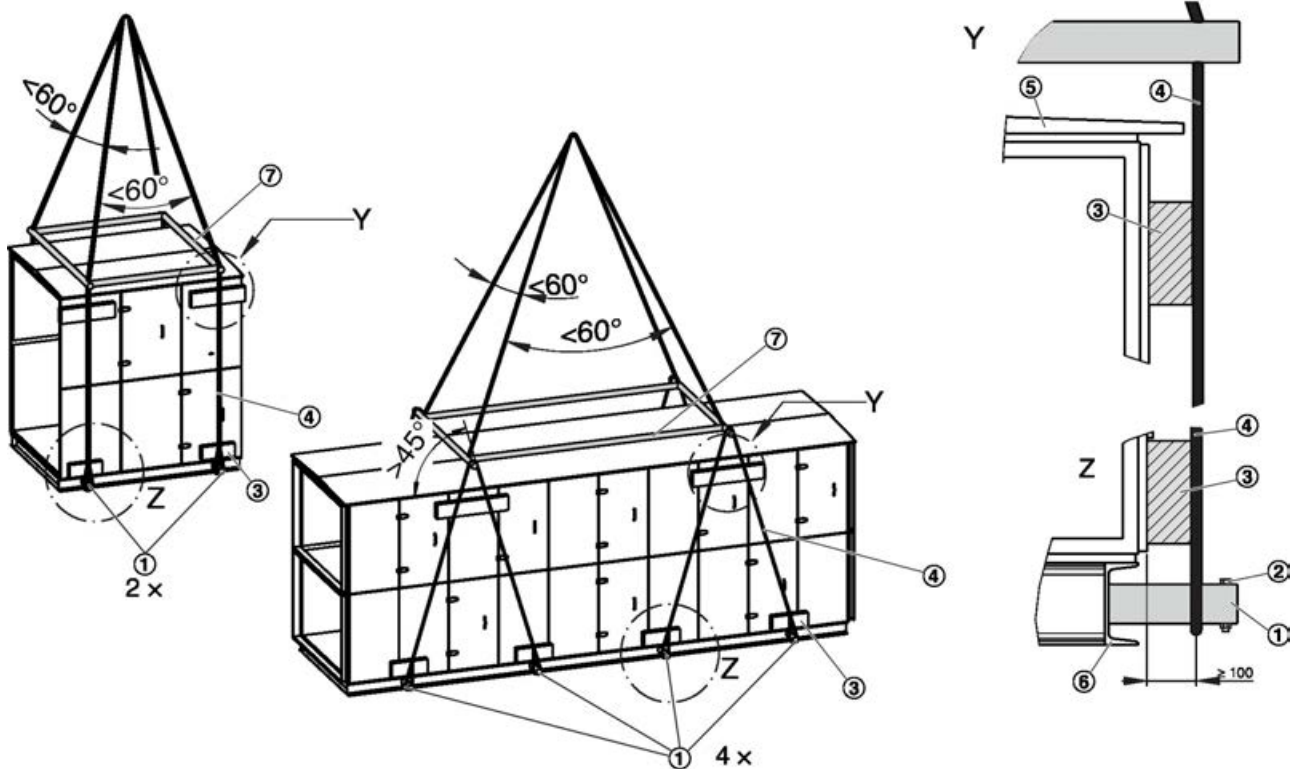

Fig. 8: Lashing points with two or four transport tubes
The number of drilled holes in the base frame (Fig. 8 /6) indicates the number of transport tubes (Fig. 8 /1) to be used.
- Select the lashing points based on the number of transport tubes you use, Fig. 8
1. ▶ Remove the plugs from the drilled holes in the base frame (Fig. 8 /6) of the AHU casing unit.
2. ▶ Push transport tubes (Fig. 8 /1) through the drilled holes in the base frame.
Secure the transport tubes with screws (Fig. 8 /2).
3. ▶ Place the slings (Fig. 8 /4) around the ends of the transport tubes.
Position slings between the base frame (Fig. 8 /6) and the screws (Fig. 8 /2).
Protect the edges with wood blocks (Fig. 8 /3). If a unit with a roof (Fig. 8 /5) is to be moved, use wood blocks that are thick enough to provide a distance of 100 mm between the sling and the casing unit.
Spread the slings near the roof with a suitable device (Fig. 8 /7), e.g. a lifting beam.